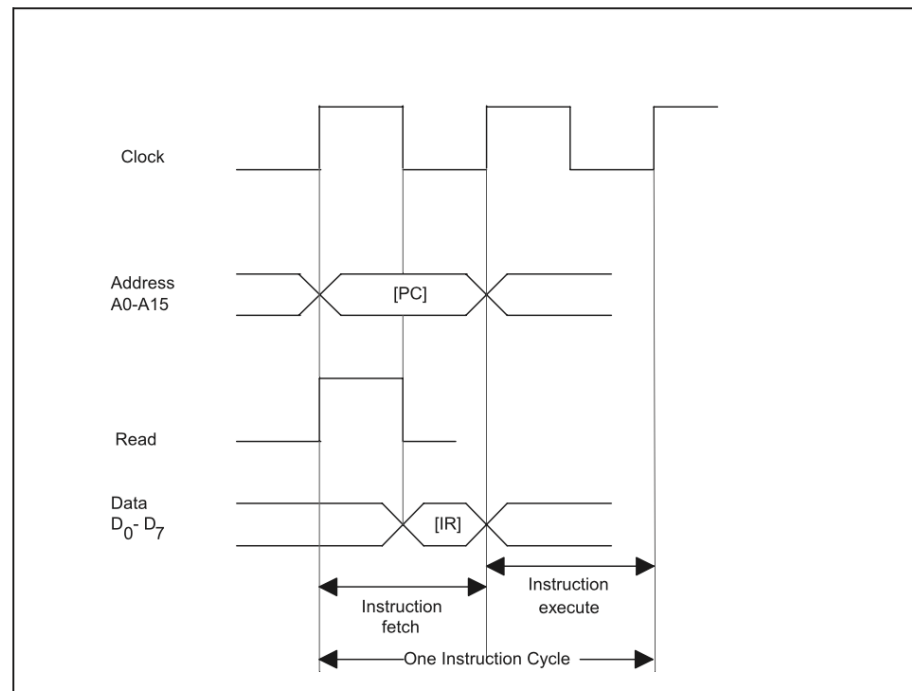

FIGURE 3.3 Typical instruction fetch timing diagram for an 8-bit microprocessor.
- To fetch an instruction, when the clock signal goes to **HIGH**, the CPU places the contents of the program counter on the address bus via address pins A0–A15 on the chip. Note that since each of lines A0–A15 can be either HIGH or LOW, both transitions are shown for the address in Figure 3.3.